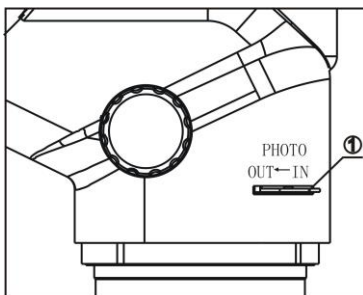

Figure 10
- (1) To observe through binocular, please turn the light path selection lever ① to "OUT". (Fig. 10)
- (2) If turn the light path selection lever ① to "IN", (Fig 10) , you can observe through both binocular and trinocular.